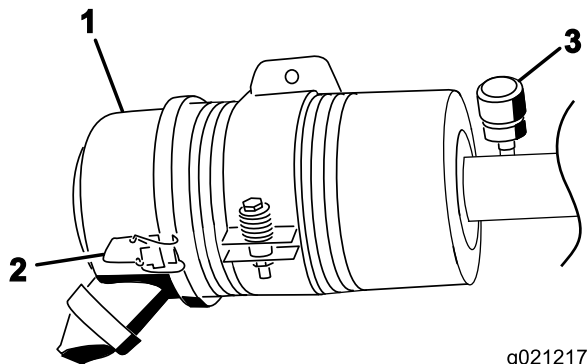

Figure 46
Service the air-cleaner filter only when the service indicator (Figure 46) requires it. Changing the air filter before it is necessary only increases the chance of dirt entering the engine when the filter is removed.
1. Release the latches securing the air-cleaner cover to the air cleaner body (Figure 46).